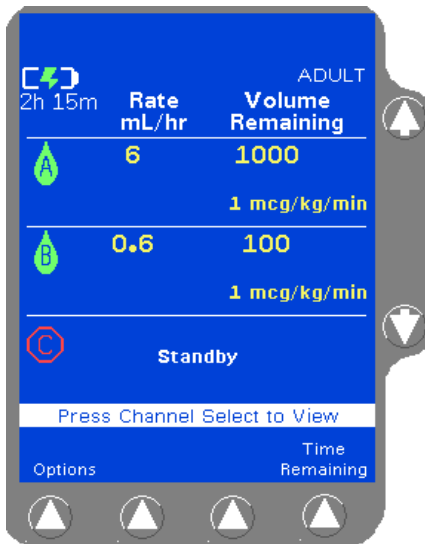

Figure 4-68 Main Display
15. Press the **START** key to begin the infusion. The Main Display screen shows the rate, volume remaining, and the dose (Figure 4-68).